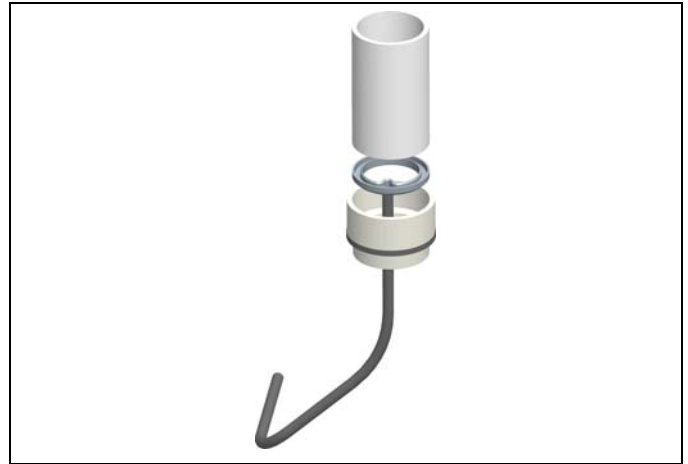

FIGURE 1: Intake Drain
4. Place intake drain into the inlet coupling on top of the furnace. See Figure 1).